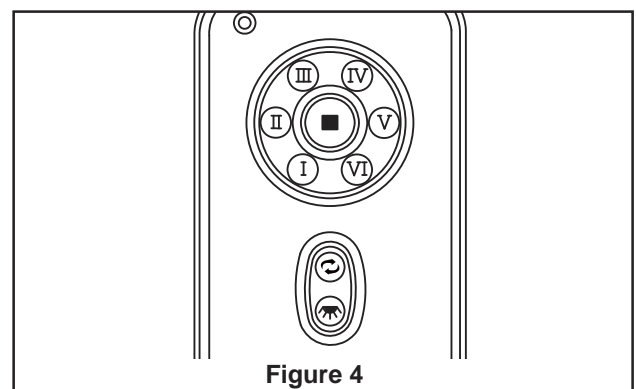

Figure 4
- : Controls light-Infinite light levels are available by holding the light on/off button (Figure 4).